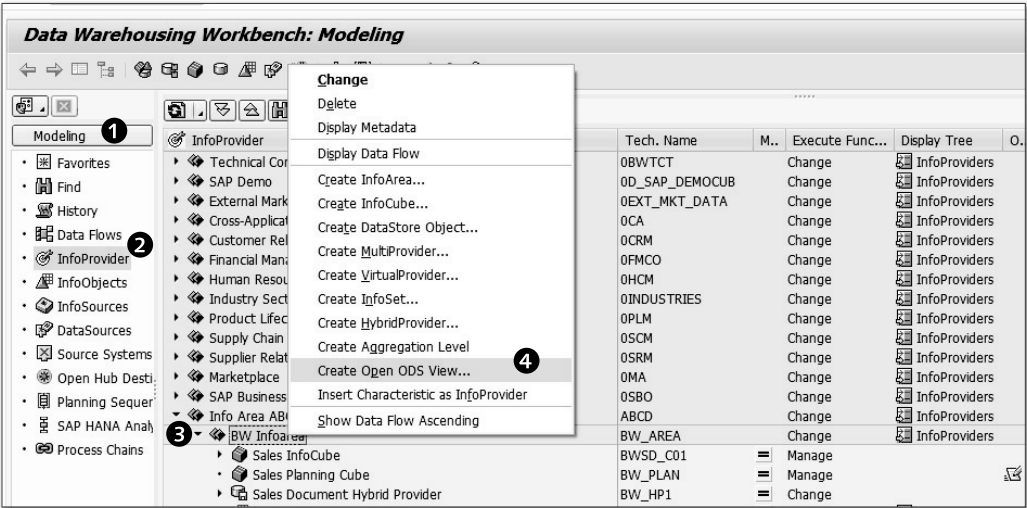

Figure 6.77 Creating an Open ODS View
As explained earlier, an OOV is a type of InfoProvider. An OOV is created in the DATABASE WAREHOUSING WORKBENCH screen, which is opened using Transaction RSA1. Select INFOPROVIDER ❶ under MODELING ❷ from the navigator section (see Figure 6.77).